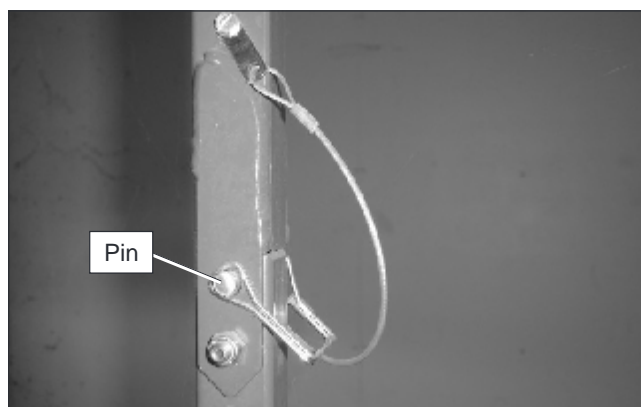

Figure 9.6 – Platform Pin
3. Remove the pins (refer to Figure 9.6) that connect the front panel to the guardrails on the right side of the platform extension. Fasten the front panel to the mid rail on the left side of the platform.
- Remove the pins (refer to Figure 9.6) that connect the rear panel to the guardrails on the right side of the platform. Fasten the rear panel to the mid rail on the left side of the platform.